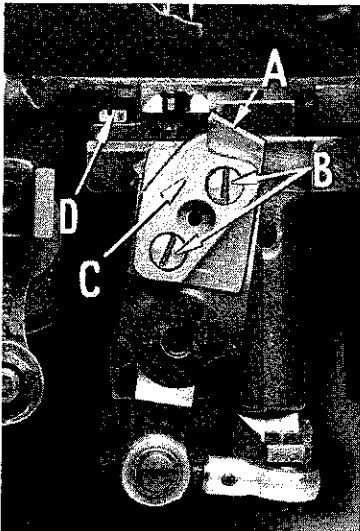

Fig. 14
Set the hook (A, Fig. 14) high on the carrier, and tilt forward as far as it will go. Loosen screws (B) to make this adjustment. The hook needle guard (C) guards the right side of the needle and has no adjustment.
The plunger should be set .005 inch from the hook needle. Loosen the plunger block holder screw (D, Fig. 14) and move the block in the required direction to secure this adjustment.